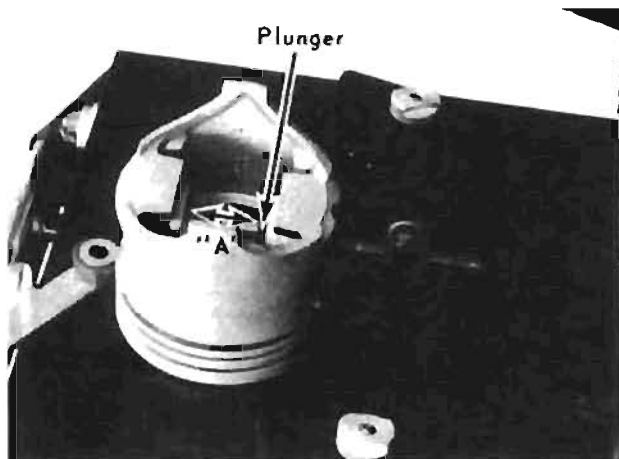

FIGURE 9
11. Carefully, loosen the Plunger Clamp and position the Plunger so it protrudes through the pin boss at least 1/16 inch. See Figure 9. Tighten the Plunger Clamp.